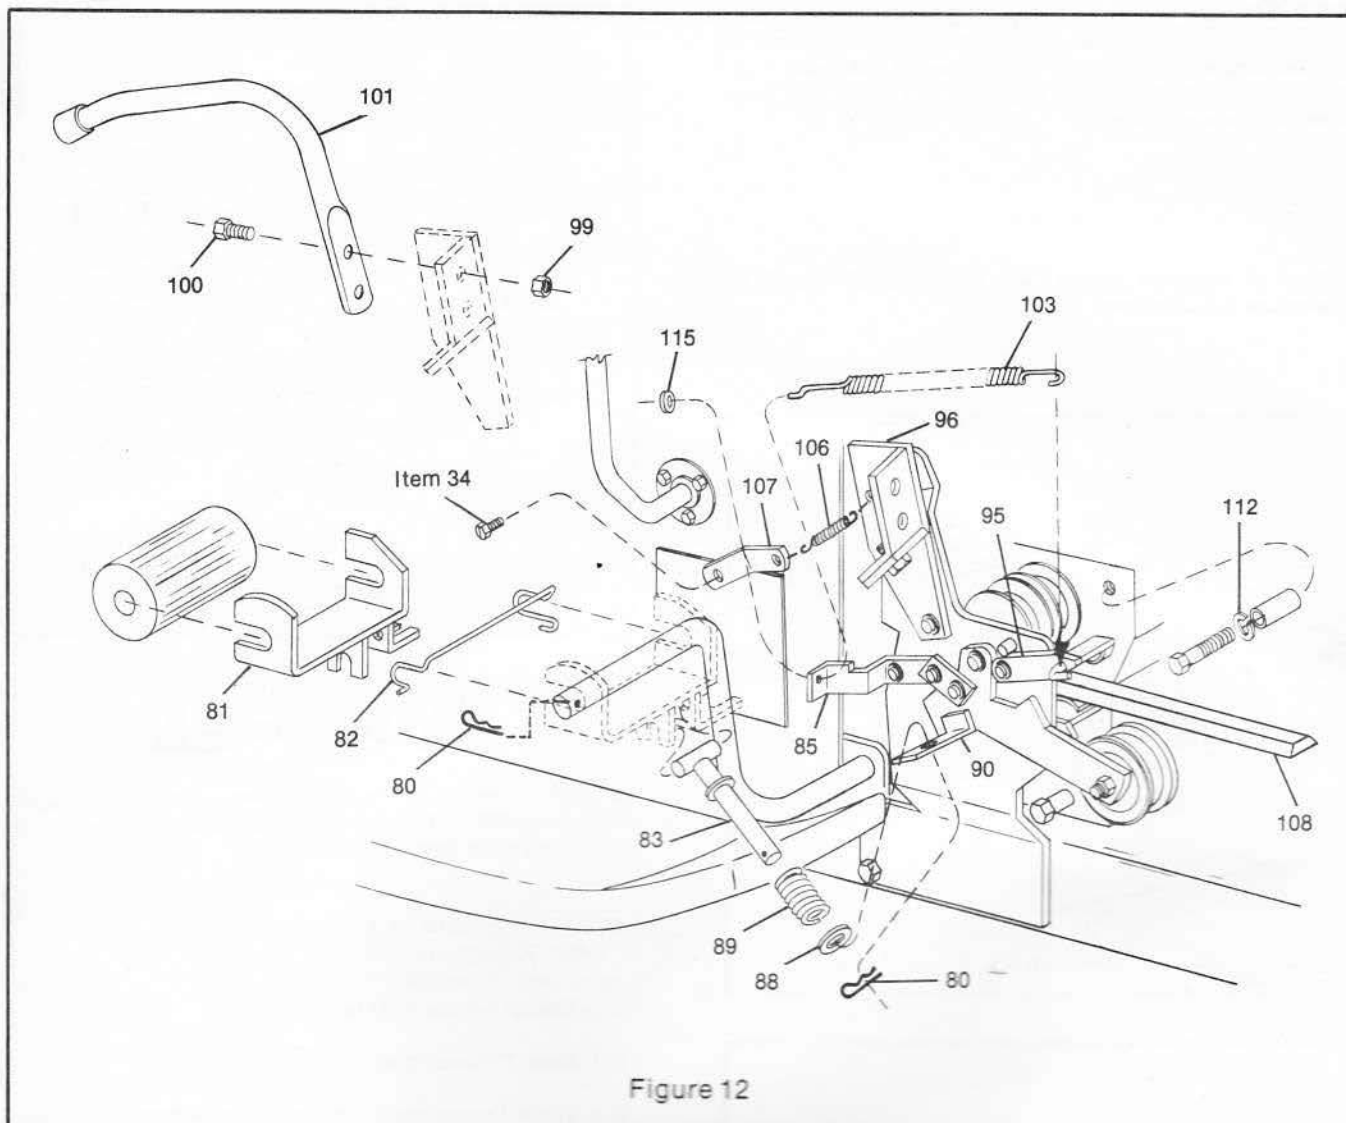

Figure 12
C.) Locate V-belt (108) over clutch idler and between brake arms as shown in Figure 12.
STEP 12 (Figure 12)
Assemble brake spring (103) between clutch linkage (85) with washer (115) see Figure 12 and spring retainer on brake arm (95). Spring must be assembled to top of spring retainer on brake arm (95) as shown in Figure 12.
STEP 13 (Figure 12)
Assemble clutch disengagement arm (101) to power pack assy., as shown in Figure 12, using two hex bolts (100) and two hex lock nuts (99) furnished in Parts Bag.
STEP 14 (Figure 12)
Assemble spring return bracket (107) to Tractor using existing Tractor bolt, Item 34, See Tractor Owner's Manual Pages 12 & 13. Locate spring return bracket as shown in Figure (12), and tighten bolt securely. Attach spring (106), furnished in Parts Bag, to clutch lock weldment (96) and to spring return bracket (107) as shown in Figure 12.
STEP 15 (Figure 12)
Assemble pedal & lock bracket (81) and retaining wire (82) to attachment clutch pedal, as shown in Figure 12, and secure with hair pin (80), furnished in Parts Bag.
STEP 16 (Figure 12)
Assemble clutch spring (89) and washer (88) onto clutch rod (83), placing clutch rod thru bracket on clutch arm (90) as shown in Figure 12. Secure clutch rod to clutch arm with hair pin (80), furnished in Parts Bag.